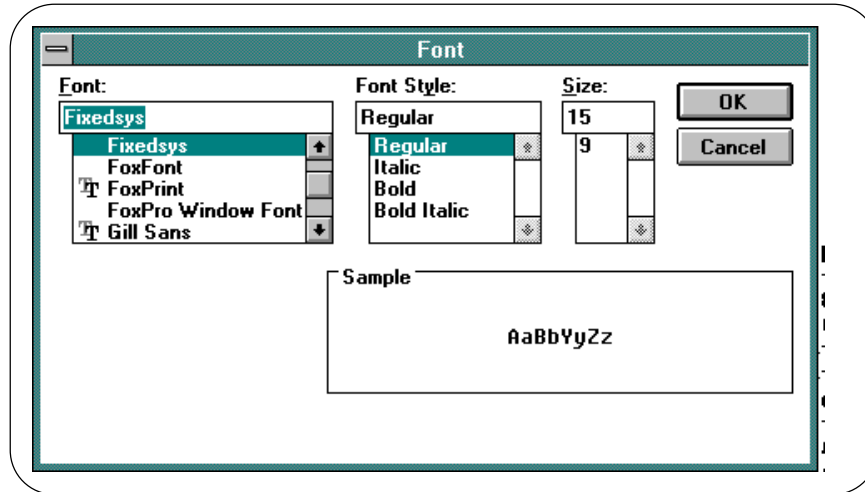

Figure 6-5
1. **Font...** — Choosing **Font...** from the pull-down menu opens the Font dialog box (Figure 6-5). You can vary the font, font style and font size using this dialog box.